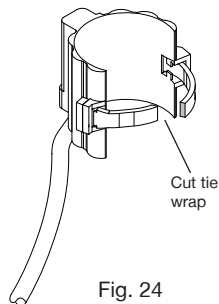

Fig. 24
- Remove the existing reed switch by cutting the securing tie wrap and pulling away from the body Fig. 24.